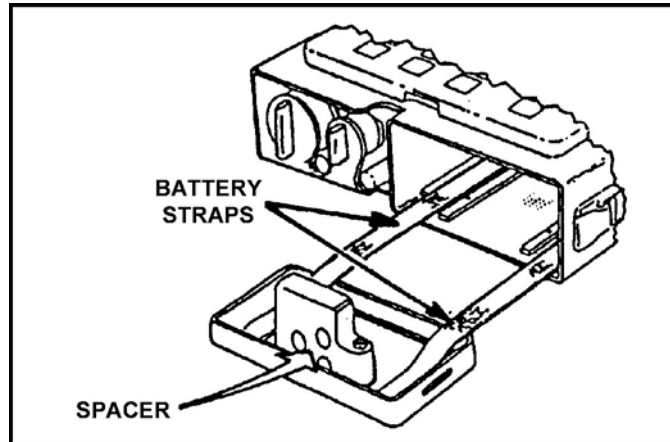
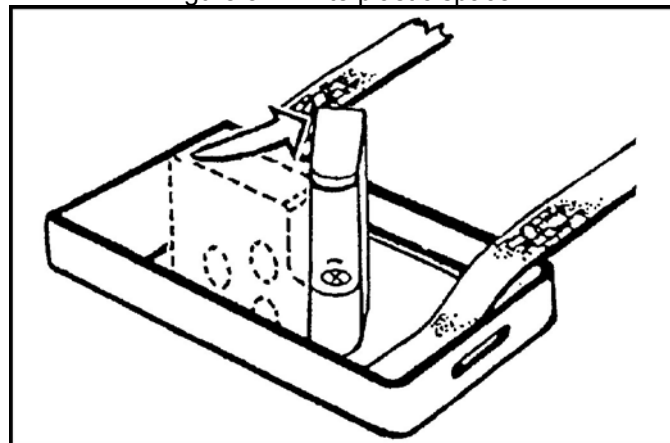
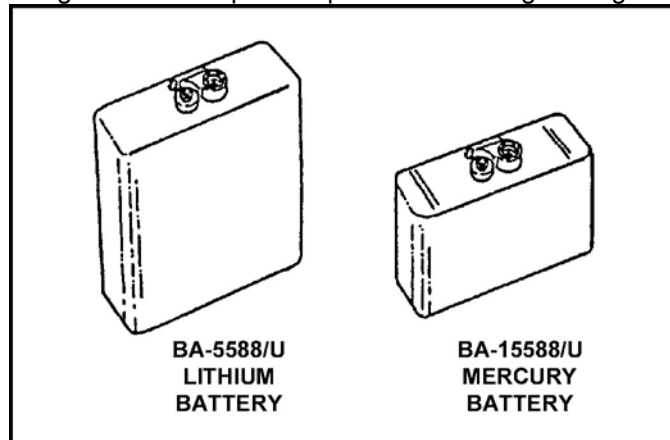

Figure 5. White plastic spacer.
Figure 6. White plastic spacer at a 45-degree angle.
Figure 7. Batteries used with MBC.
- e. A white plastic spacer is attached to the battery compartment cover (Figure 5). When using the BA-1588/U (mercury) battery, move the spacer down on a 45-degree angle (Figure 6). When using the BA-5588/U (lithium) battery, leave the spacer upright. The lithium battery is about twice as long as the mercury battery (Figure 7).